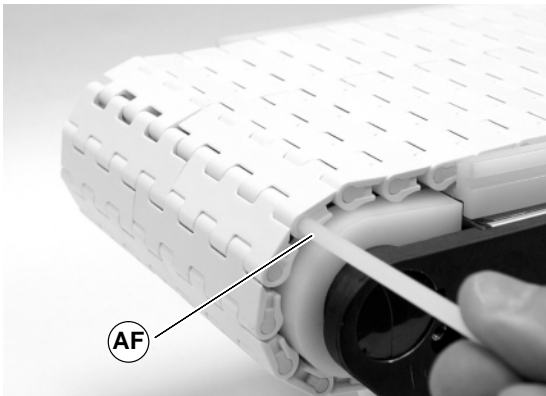

Figure 14
6. Splice the belt together by pushing the plastic rod (AF of Figure 14) through the side hole.